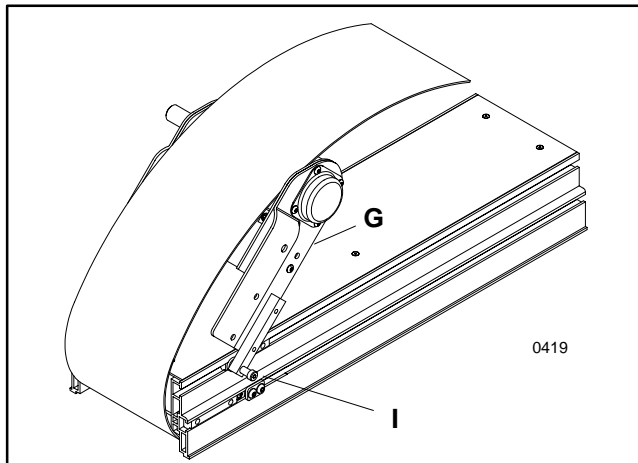

Figure 5: Tail Section Positioning Detail
- Place the tail section (G of Figure 5) on top of the conveyor and inside the belt loop as shown.